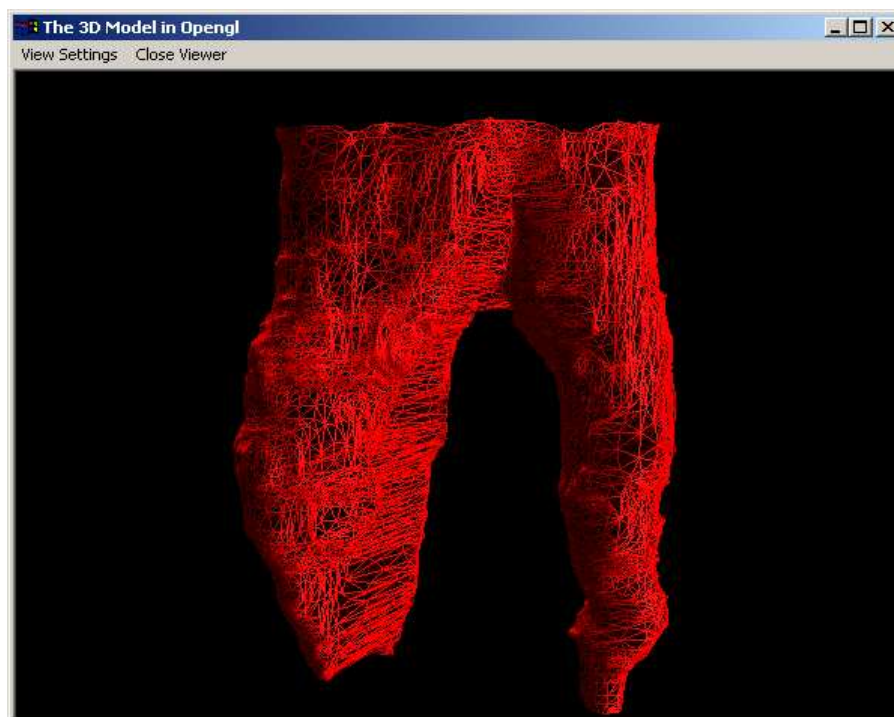

Figure 9: Wireframe display of a 3D surface model.
*Wireframe* command: It displays a 3D surface model as wireframe (Figure 9).